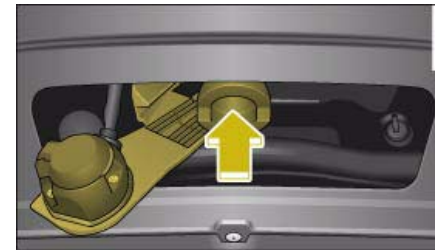

Fig. 208 Socket (folded down)
- Check that the mounting for the towing bracket, which will now have become visible -arrow- ⇒ fig. 208, is free of dirt, and clean if necessary ⇒ **!**